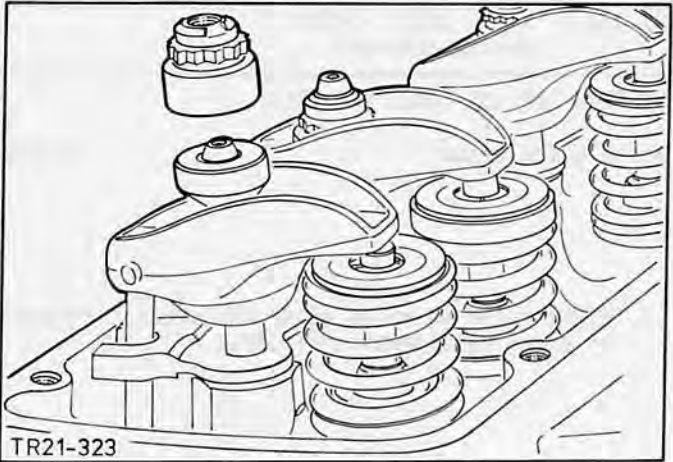

Fig.100. Rocker arm with rocker guide and adjusting nut.
5. Remove rocker arms complete with rocker guides and adjusting nuts, Fig.100.